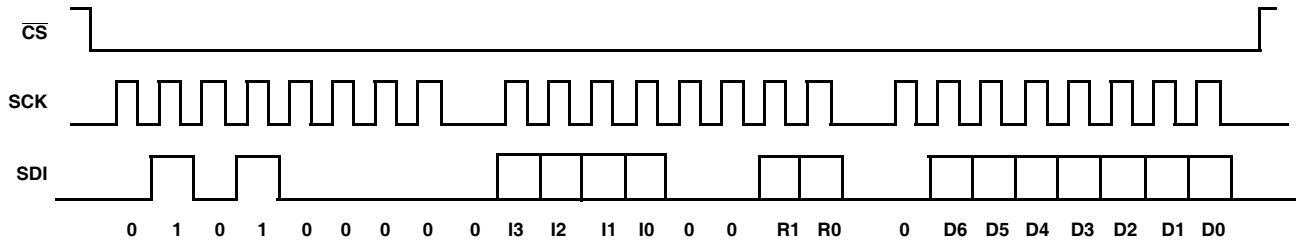

FIGURE 16. THREE BYTE WRITE SEQUENCE
by Data Byte is sent to SDI pin. The host terminates the write operation by pulling the $\overline{\text{CS}}$ pin from LOW to HIGH. For a write to address 0 (WR), the byte at address 2 (ACR<7>) determines if the Data Byte is to be written to volatile or both volatile and non-volatile registers. Refer to "Memory Description" on page 10 and Figure 16.